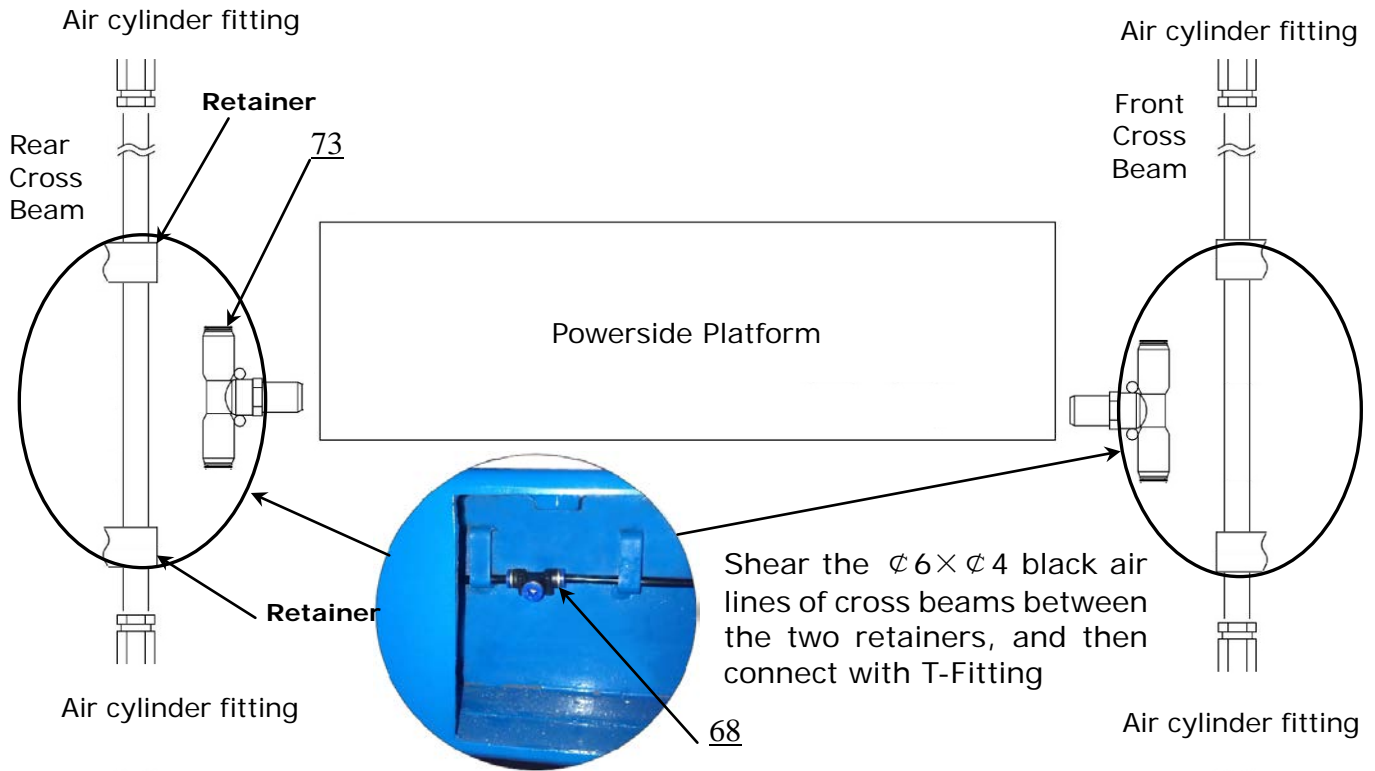

Fig. 26
1. Shear the $\phi 6 \times \phi 4$ black air lines of cross beams between the two retainers, and then connect with T-Fitting (See Fig. 26).